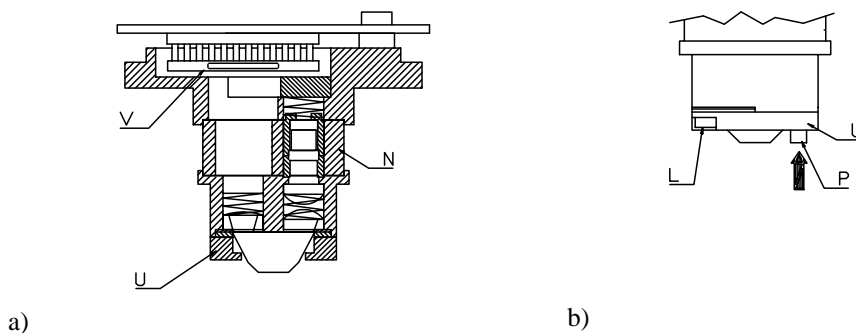

Figure 6.71 The Analyzer module.
10. Lift the Analyzer module, Figure 6.71 (a). The module does not turn due to the alignment pin (R). Note. The thermal insulator (N) is permanently glued at both ends.
11. Remove the Prism support (U) fixed by two M3 screws (L), Figure 6.71 (b).
4. Put the prism support (U) upon the gasket. Keep the gasket in place with a fingertip in the middle. Check that the gasket is symmetrical around the middle of the prism surface. Tighten the screws (L) to the bottom, Figure 6.71 (b).
5. Check that the temperature sensor (P) is properly springloaded. In outer position, the sensor tip is level with the prism surface, Figure 6.71 (b). It should flex inwards 2-3 mm as indicated by an arrow, but return to the outer position.
6. Clean the window of the CCD-element (V), Figure 6.71 (a). Attach the Image detector card to the analyzer module by the two screws (F) with conical heads. Connect electrically all cards, with connectors (A), (B), (C), and (D).